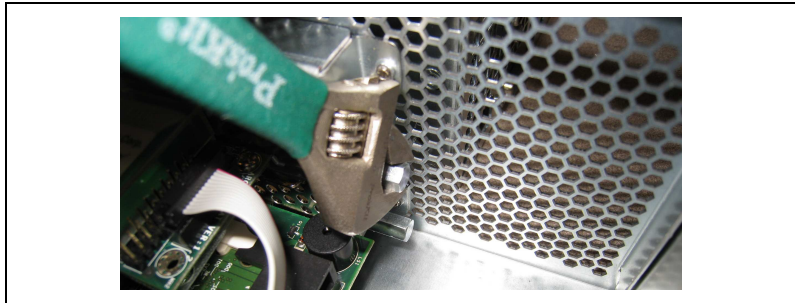

Figure 8. Finishing Battery Pack Installation
- Finish the battery pack installation by tightening the retention fastener with a 6 mm wrench or small adjustable crescent wrench (not included with the kit), as shown in Figure 8. When appropriately tightened, the retention fastener should not be easily removable by hand. Do not over-tighten the fastener.